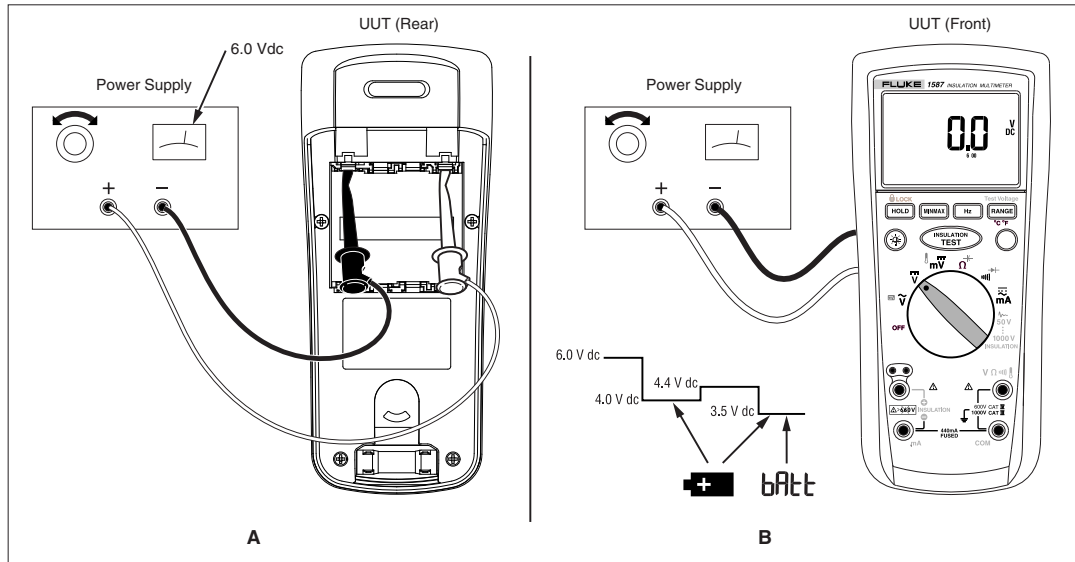

Figure 9. Low-Battery Test Connections
2. Connect a 6-volt adjustable Power Supply between the positive and negative battery terminals of the UUT as shown in Figure 9.
2. Connect a 6-volt adjustable Power Supply between the positive and negative battery terminals of the UUT as shown in Figure 9-A.